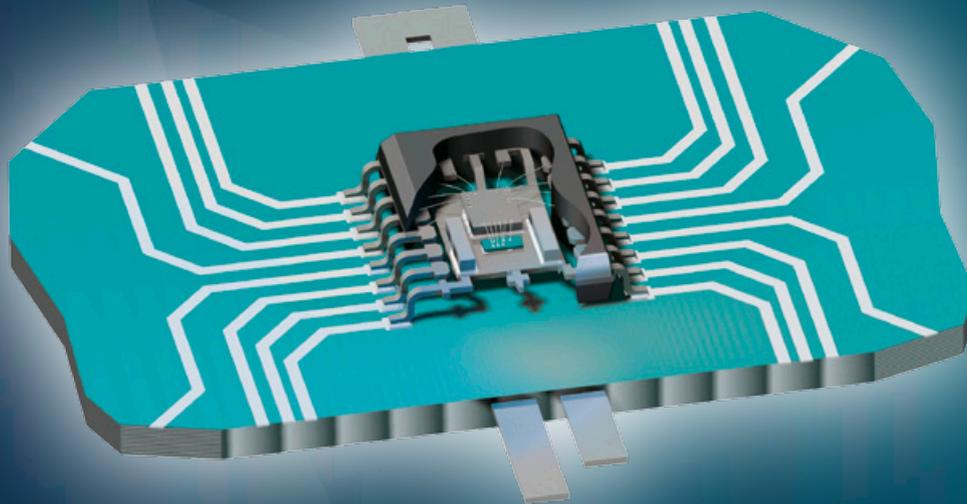

*Fig. 1: CFS1000 current sensor: programmable SMD housed AMR current sensor from Sensitec.*
*The new programmable current sensor CFS1000 has been developed for the highly dynamic electronic measurement of DC, AC or pulsed current with integrated galvanic isolation. It consists of an anisotropic magnetoresistive (AMR) sensor element and a specific ASIC (fig. 1 + fig. 2). The current sensor exhibits no hysteresis as observed in iron core based Hall-sensor solutions. Due to the high sensitivity of AMR sensors, a flux concentrator is not necessary. It is designed for high resolution and very fast electronic measurement. The described sensor enables a differential magnetic field measurement by an advanced geometry of the magnetoresistive elements. Due to this arrangement the sensor is immune to homogeneous interference fields. By variation of the geometry of the external primary current conductor the system can be adapted to different current ranges and applications.*